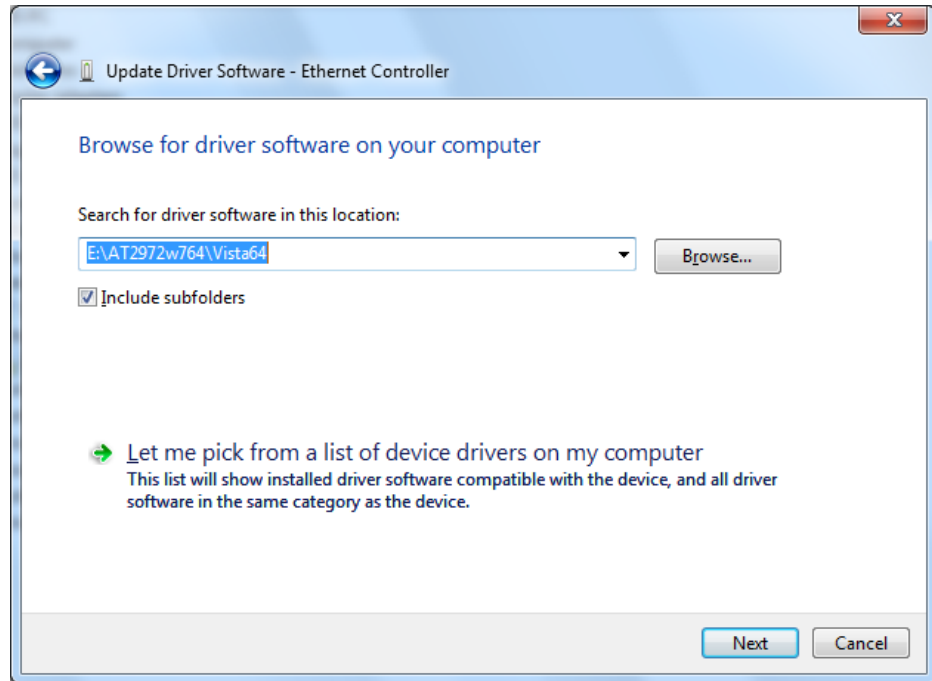

Figure 19. Update Driver Software: Ethernet Controller: Browse
6. Click **Browse** to search your computer for the location of the driver software. See Figure 19.